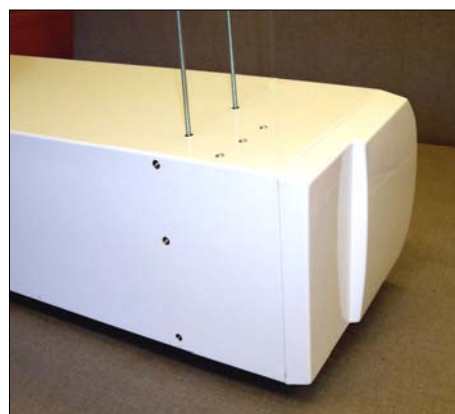

Fig 3
Step 1 Screw the threaded rods into all of the holes in the top face of the unit as shown in Fig 3.